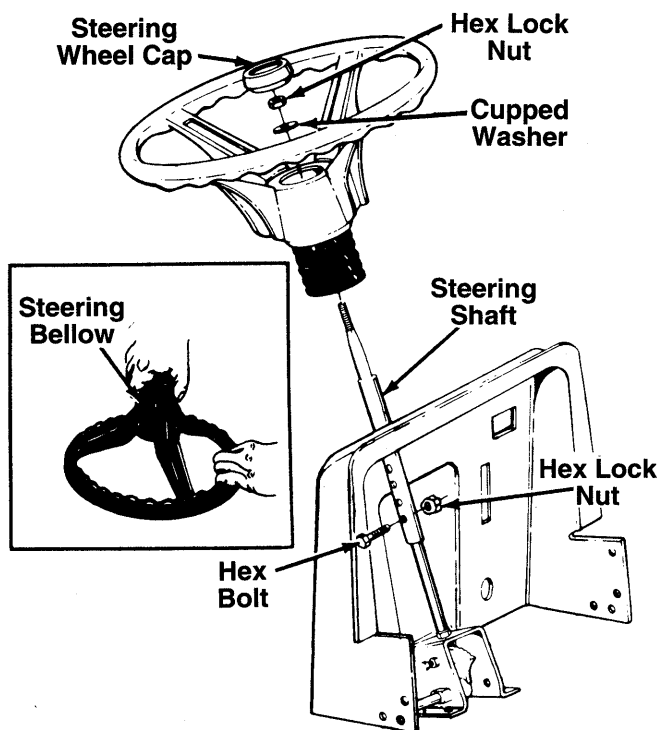

FIGURE 4.
1. There are four height positions for the steering wheel. For shipping purposes, the steering shaft is assembled in the lowest position. Lift the hood of the tractor. Remove the hex bolt and hex lock nut on the steering shaft. Raise the shaft to desired position and secure with hex bolt and hex lock nut. See figure 4.
2. Attach one end of the plastic steering bellow to the steering wheel as shown in figure 4, inset.
5. Place the washer with the cupped side down over the steering shaft. Secure with 5/16" hex lock nut. See figure 4.